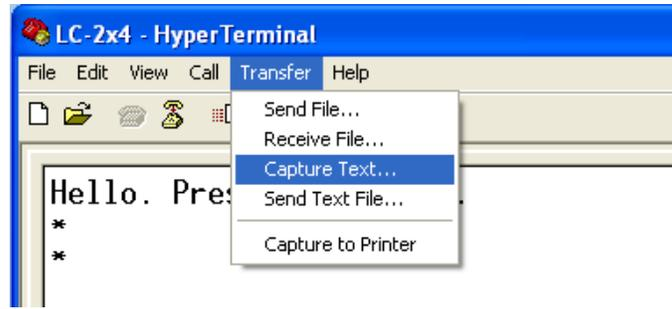

Figure 27 - HyperTerminal Transfer Menu
- 5) Upon confirmation of communications, select Transfer | Capture Text (see Figure 27):